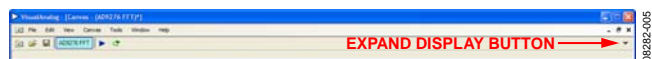
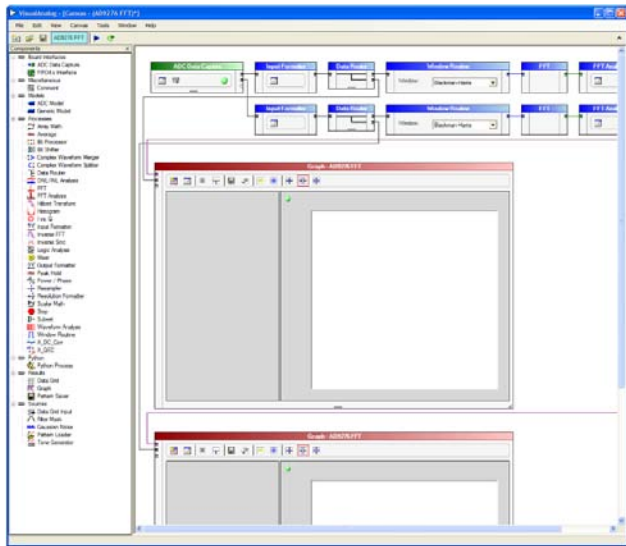
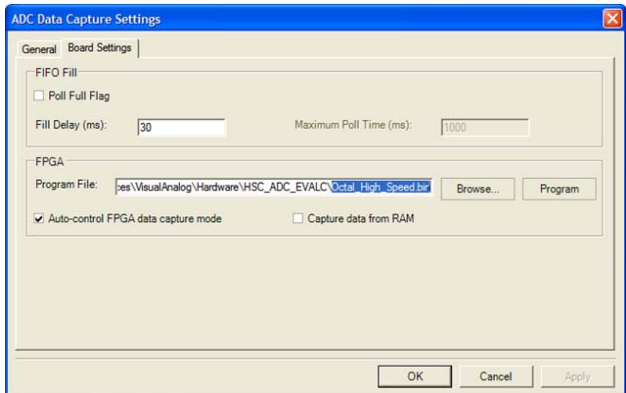

Figure 5. VisualAnalog Window Toolbar, Expand Display Button
Figure 6. VisualAnalog, Main Window Expanded Display
Figure 7. ADC Data Capture Settings, Board Settings Tab
3. To view different channels or change features to settings other than the default settings, click the **Expand Display** button located on the top right corner of the VisualAnalog window, as shown in Figure 5 and Figure 6.
- Program the FPGA of the HSC-ADC-EVALCZ board to a setting other than the default setting as described in Step 3. Then expand the VisualAnalog display and click the **Settings** button in the **ADC Data Capture** block (see Figure 6). The **ADC Data Capture Settings** box opens (see Figure 7).